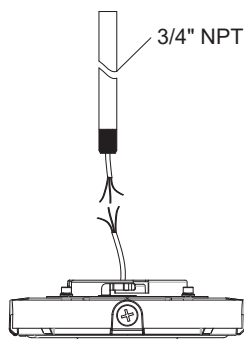

Figure 1
1. Connect the cord to the local power supply in the 3/4" NPT Stem (Figure 1).